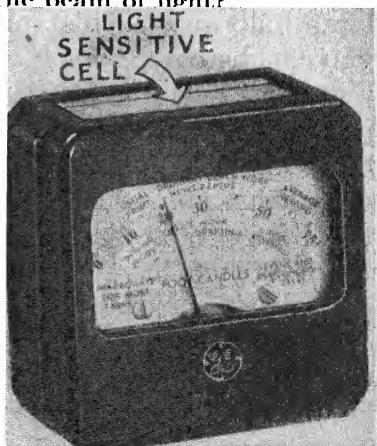

FIG. 367. A light meter (General Electric photo)
With the invention of the *light meter* (Figure 367), lighting has become a science. By this instrument it is possible to tell how much light is needed for different purposes and the kind and number of lamps needed to supply this light. The results of experiments show the following light needs: (1) For use in the dining-room, at a card table, and other eye work not requiring close sight—10 foot-candles or less. (2) For reading good print on white paper, coarse knitting, ironing, cleaning vegetables, etc.,—10 to 20 foot-candles. (3) For intensive use of eyes, such as sewing at machines, studying, and drawing—20 to 50 foot-candles. (4) For reading fine print, sewing with dark thread on dark goods, etc.—50 to 100 foot-candles.